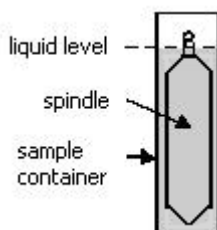

Fig. 15: Full APM adapter.
- Attach the base Y shaped (A) to the rib (C). Use a 19 mm adjustable spanner in order to fasten the nut (D).
- Close the sample (K) container with the stopper (M).
- Insert the container (K) to the lower part, in the circulation jacket (J) by turning it gently.
- Fasten the circulation jacket (J) to the connector (G)
- Connect the hook (H) and the spindle (L)
- Insert the spindle (L) in the circulation jacket (See the note \* below)
- Fasten the connector (G) to the hole in the back of the viscometer's metallic base (**See the note \*\* below**)
- Check the level of the sample. It should be approximately in the middle of the cone, which is connected to the spindle connector (H). Figure 15 shows more information about this.
- Place the upper stopper (N) over the sample container.